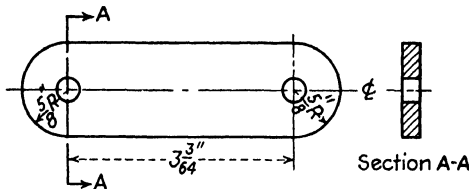

Fig. 310.— $\frac{1}{8}$ -in. cold-rolled, S.A.E. 1025, 2 holes drilled  $\frac{3}{16}$  in. diameter.
46. Find the over-all length of the fitting shown in Fig. 310.
47. Make a full-scale drawing of the fitting in Fig. 310.
48. Find the top surface area of the fitting in Fig. 310.
51. What is the tensile strength at section AA (Fig. 310)?
52. What is the bearing strength at AA (Fig. 310)?